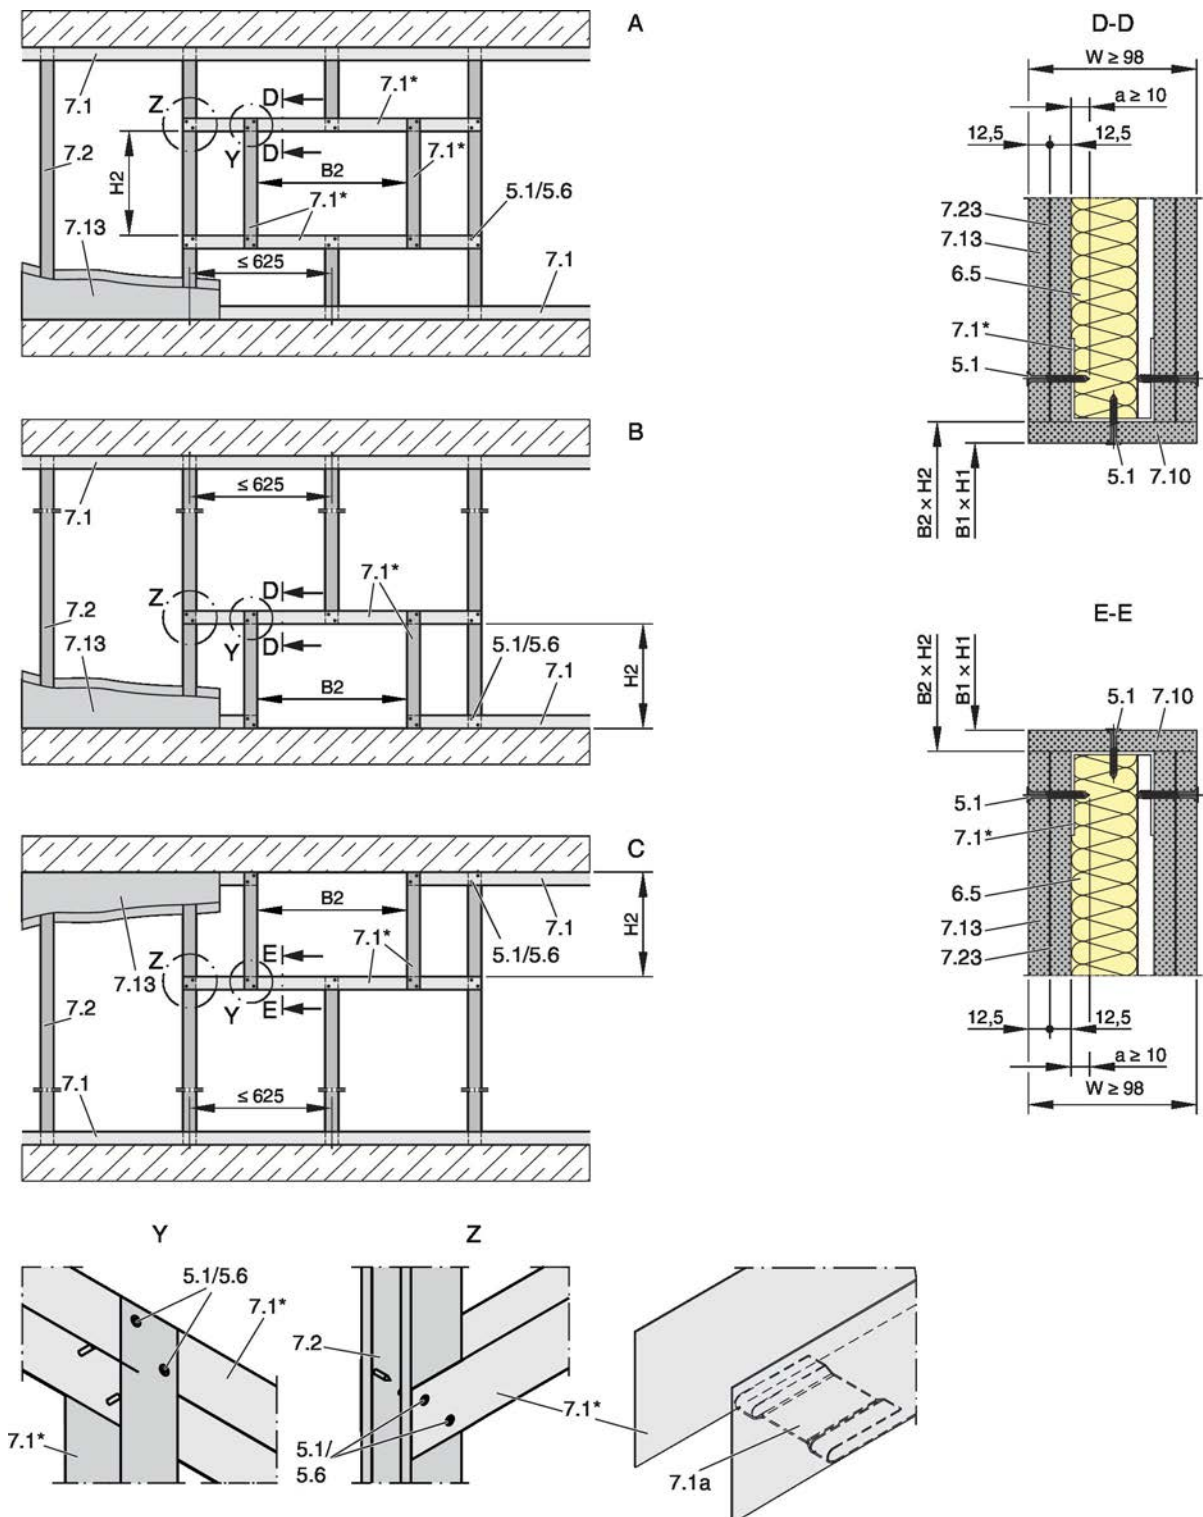

Fig. 25: Lightweight partition wall with metal support structure and cladding on both sides
- Provide the installation opening in the metal support structure with suitable metal sections, see Fig. 25.